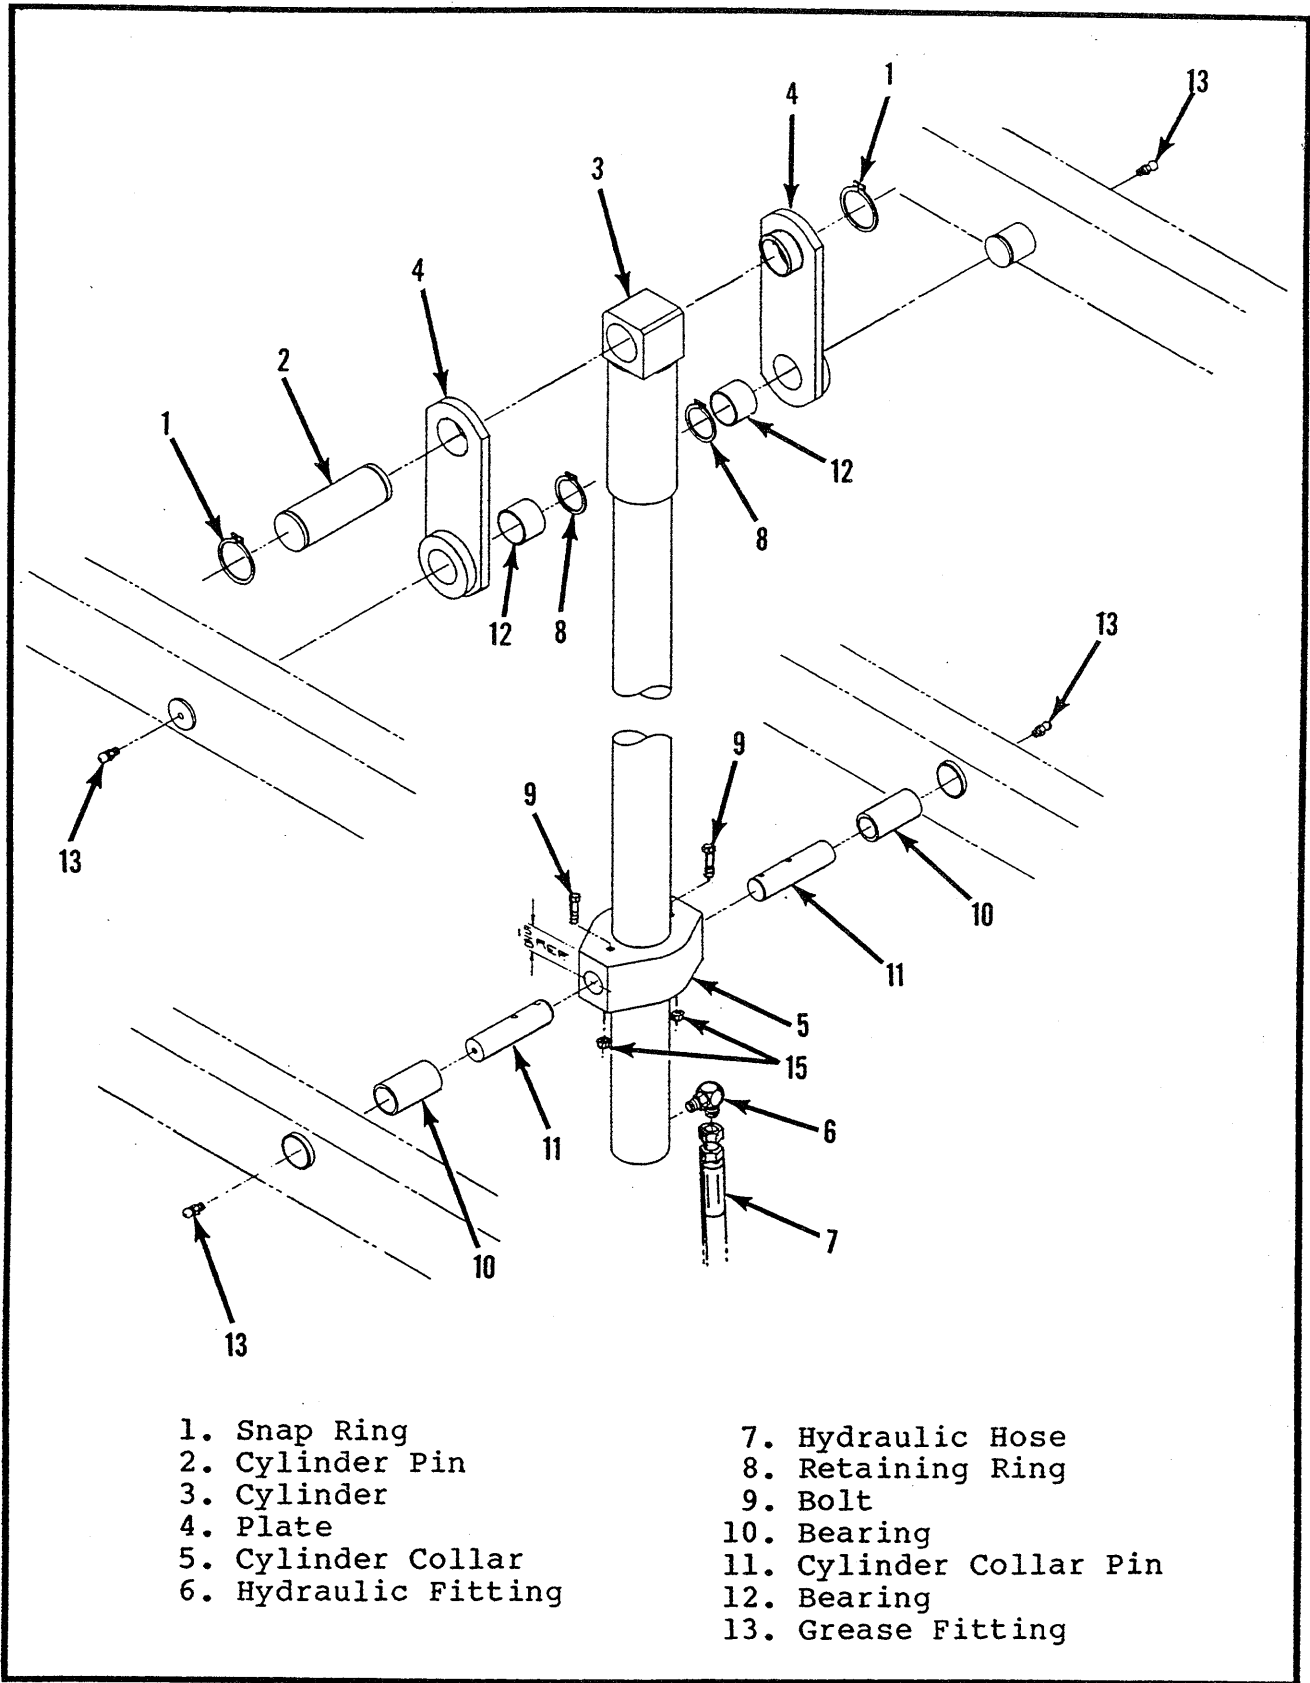

Figure 5-14. Lift Cylinder Removal
#### 5-23. LIFT CYLINDER REMOVAL (Figure 5-14).
(5) Lubricate the rod tube and install in the barrel tube.
(6) Thread the gland nut onto the barrel tube and tighten securely.
(7) Install the bleeder screw assembly.
(8) Install the velocity fuse into the barrel tube port.
e. Installation (Figure 5-14).